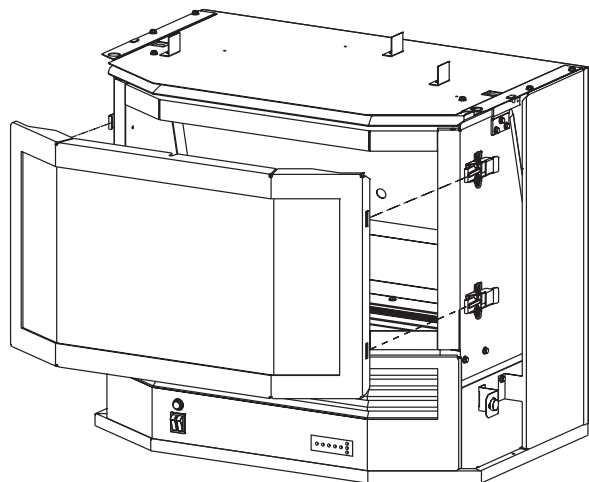

Figure 55
1. Remove front door assembly. See Figure 55.